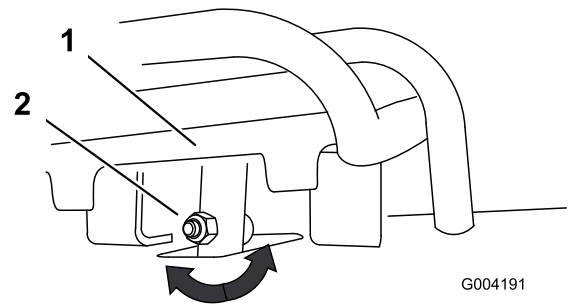
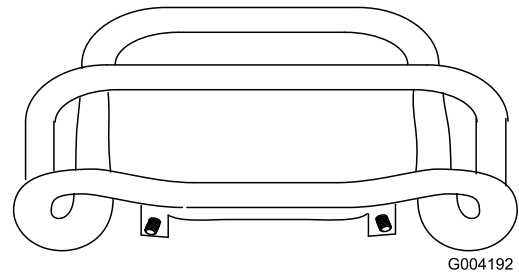

Figure 47
Figure 48
4. If the front of the traction control does not rest square and flush with the reference bar, loosen the flange nut and bolt in the stem of the traction control (Figure 47).
5. Adjust the traction control so that it rests flush against the reference bar when it is pulled straight back (Figure 47 and Figure 48).